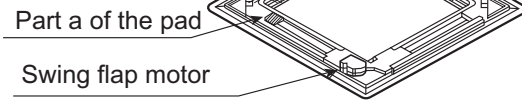
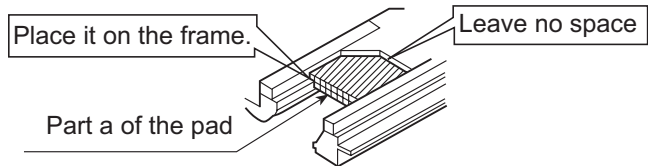

Fig. 5
Fig. 6
- ② Install part a of the pad on the place shown in Fig. 5. Refer to Fig. 6.
When the directions are selected, drill a 7 cm dia. hole on the wall so that the hole is tilted downward toward the outdoor for smooth water flow. When the pipe is led out from the rear, make a hole in Fig.6, at the position shown.
For series 14,18,24 when installing set to wall, install the accessory wall bracket at the position shown in Fig.5, and mount the set to it.
(Fig. 5)
drain hose with a nylon fastener. (Fig.6)
(Fig. 6)